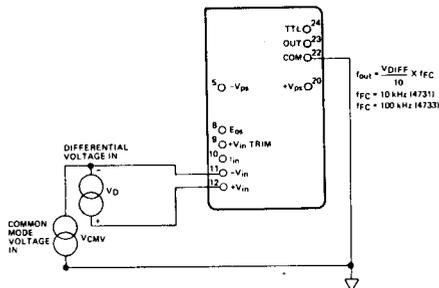

Figure 5G. Definition Of Differential & Common Mode Voltage
- ① After trim @ 10 Hz and 10 kHz (4731)/100 Hz and 100 kHz (4733)/1 kHz and 1 MHz (4735)
- ② See Figure 5G for definition
- ③ Constant voltage at Zero trim pin
- ④ Measured from -25°C to +85°C, Hot (+25°C to +85°C) & Cold (-25°C to +25°C)
- ⑤ Measurement, made for ±V_{CC} = ±9 V to ±18 V
- ⑥ Measured for -55°C to +125°C, Hot (+25°C to +125°C) & Cold (-55°C to +25°C)
- ⑦ I_{fs} = 100 μA for 4731 and 4733, 1 mA for 4735
- ⑧ Specified over entire temperature range, -55°C to +125°C
To use the V-to-F voltage inputs differentially, several simple conventions (definitions) must be observed as illustrated in Figure 5G.